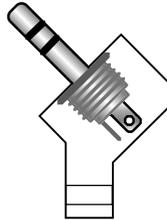

Figure 2
- Thread the plug into the flat end of the bracket until the plug's bushing is flush with the face (Figure 2). If the fit is too tight to thread the plug in by hand, grip the plug's shaft with long-nose pliers. (To protect the plug's finish, wrap it with a piece of cloth, ribbon, or tape.)